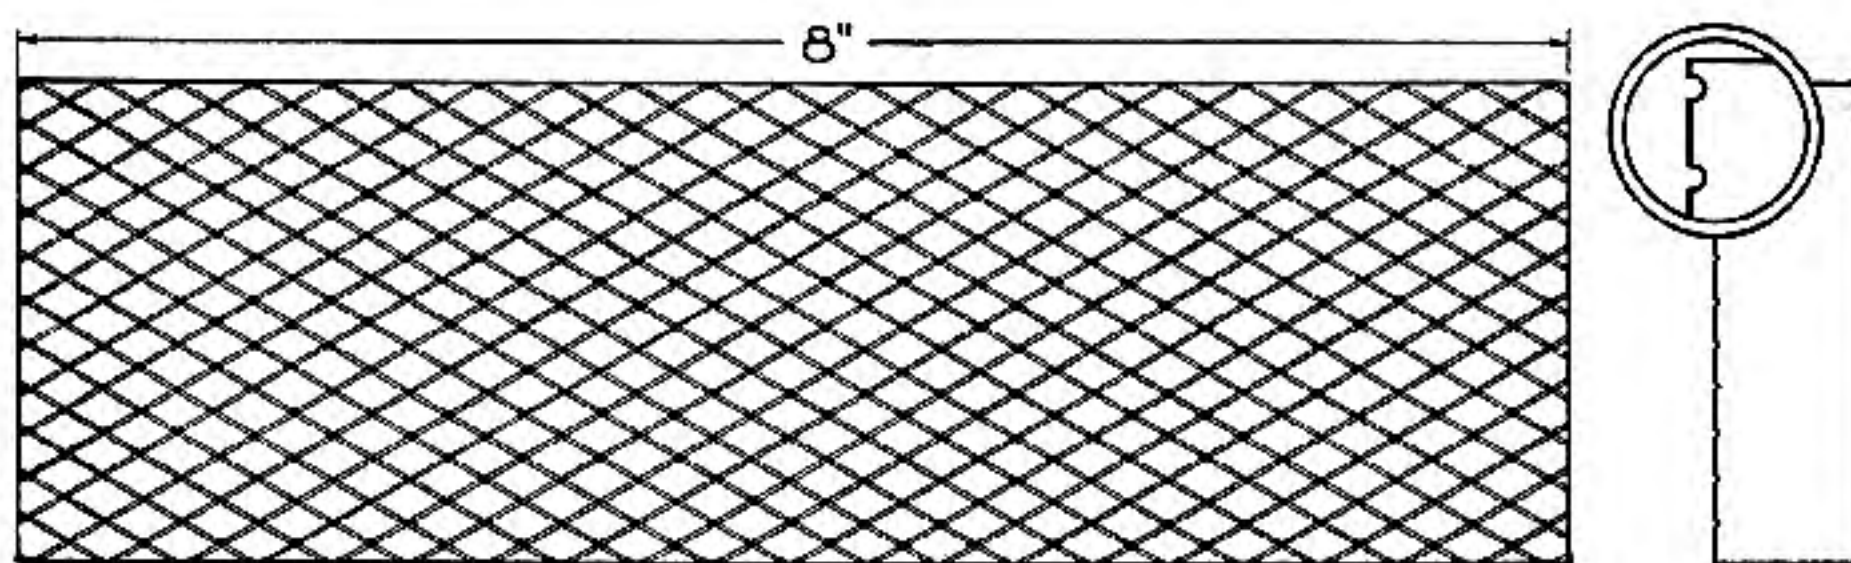

Fig. 44
*Laps for Flat Surfaces*—Laps for plane surfaces are made from cast-iron and lead. Figure 44 illustrates a small cast-iron lap for small work. In order to secure the most accurate results, the lapping surface must be a true plane. On the cast-iron lap the surface is checked or scored by narrow grooves located between  $\frac{3}{8}$  and  $\frac{1}{2}$  inch apart across the full length of the plate, forming a series of diamonds as on a stock. The lead lap is constructed in the same manner except for the grooves, its surface being a true plane. The latter is used as a roughing lap and the cast-iron one for finer finishes. After a lap is charged, all loose abrasive should be washed off with gasoline to determine if the surface has a gray appearance. Repeat until all bright spots are charged, if this is not the case. When lapping, the surface should be kept moist with kerosene; gasoline will cause the lap to cut a little faster, but it evaporates so rapidly that the surface becomes glossy in spots. Loose emery should never be applied while lapping, for if well-charged with the fine abrasive in the beginning, kept well-moistened with kerosene, and not crowded too much, it will last a long time. The pressure applied to the work should be just enough to insure uninterrupted contact. A lap can be made to cut just so fast, but with too great pressure it will strip in spots. The causes of scratches on the work are: loose abrasive on the lap, too much pressure, or poorly graded abrasive.